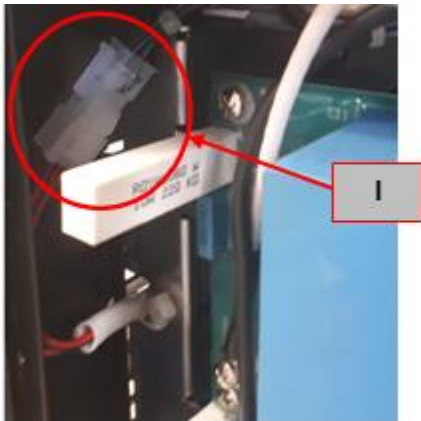

Figure 50
13. Disconnect the fan's power supply connector (I). See **Figure 50**